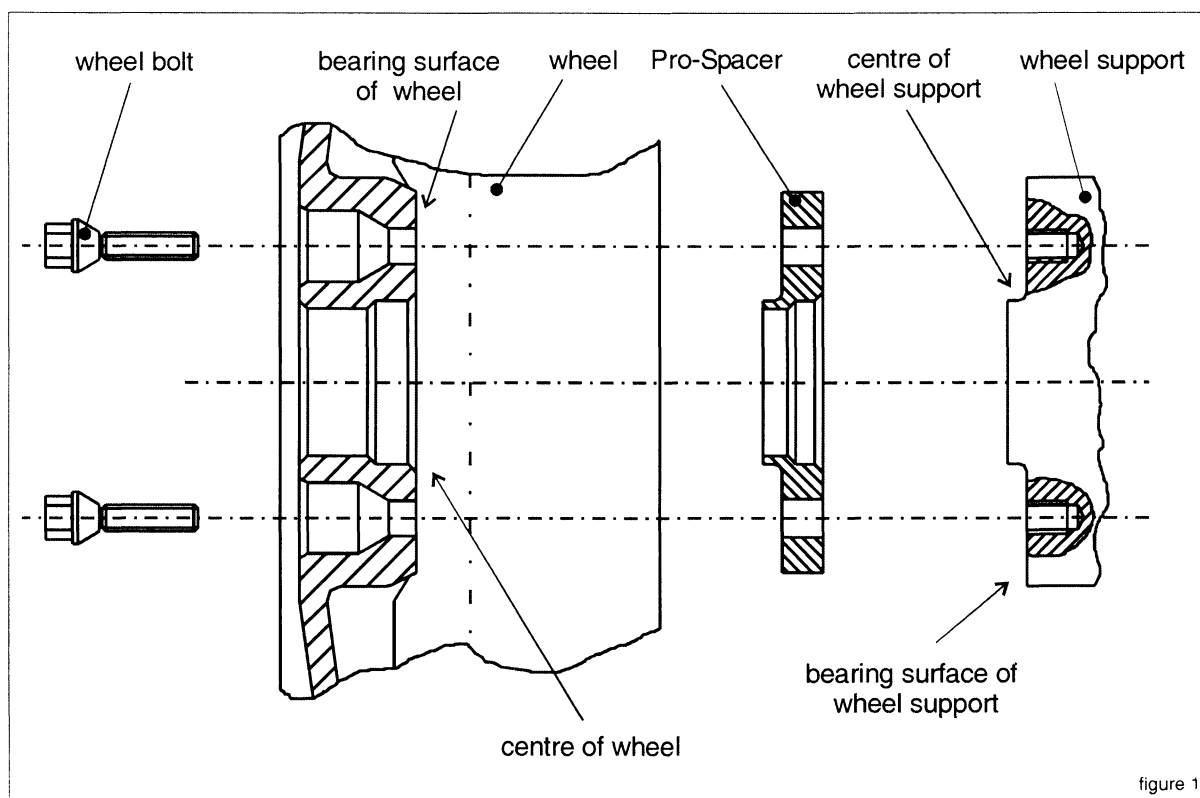

figure 1
1. The centre alignments and bearing surfaces of the wheel support and the wheel (Figure 1) must be free of rust and dirt and clean. Use a wire brush for this purpose and proceed with caution, to avoid damaging other components.